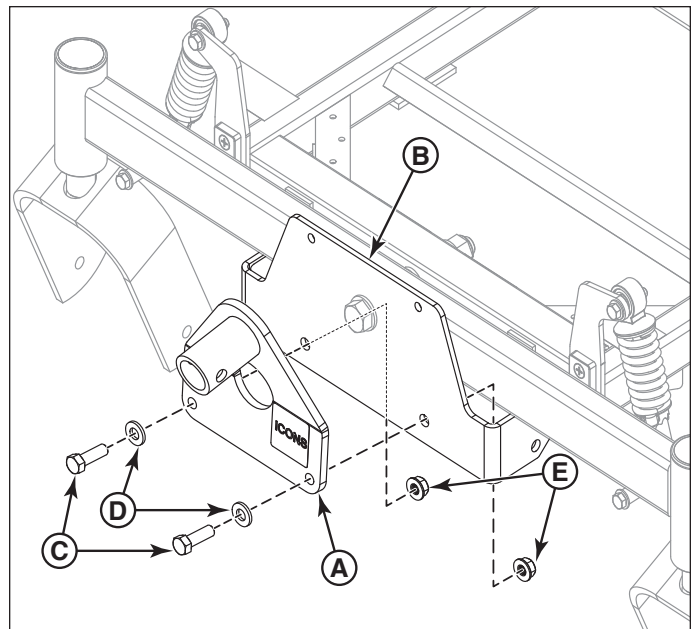

Figure 1. Installing the Jack Plate (5601078 Kit Shown, 5601077 is similar)
2. Install the jack plate (**A, Figure 1**) to the front plate (**B**) of the zero-turn rider's frame using two (2) bolts (**C**), washers (**D**), and nuts (**E**) through the existing holes.